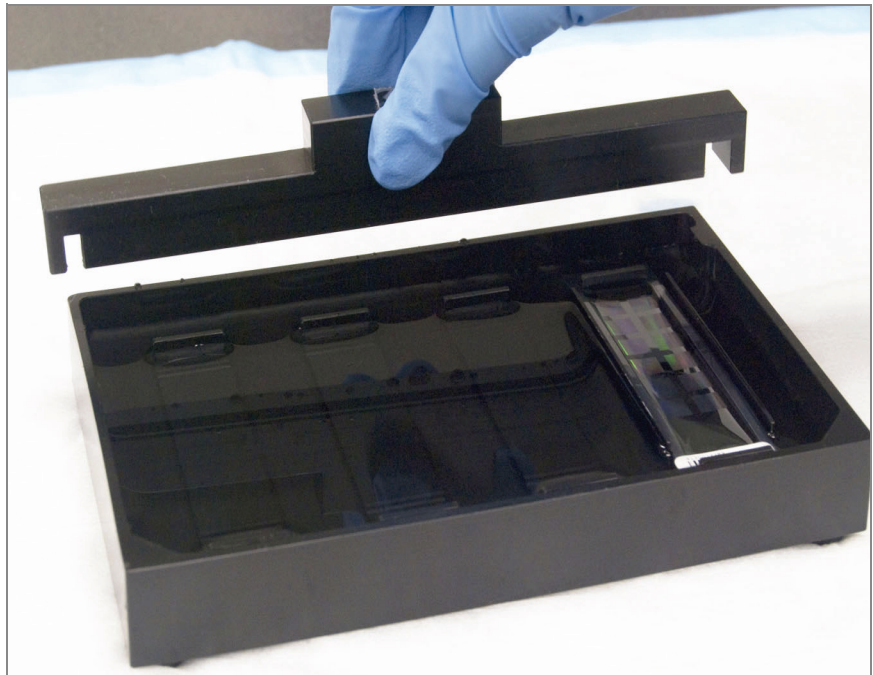

Figure 57 Placing Alignment Bar onto Alignment Fixture
5. Place the Alignment Bar onto the Alignment Fixture (Figure 57). The groove in the Alignment bar should fit over the metal tab on the Alignment Fixture.